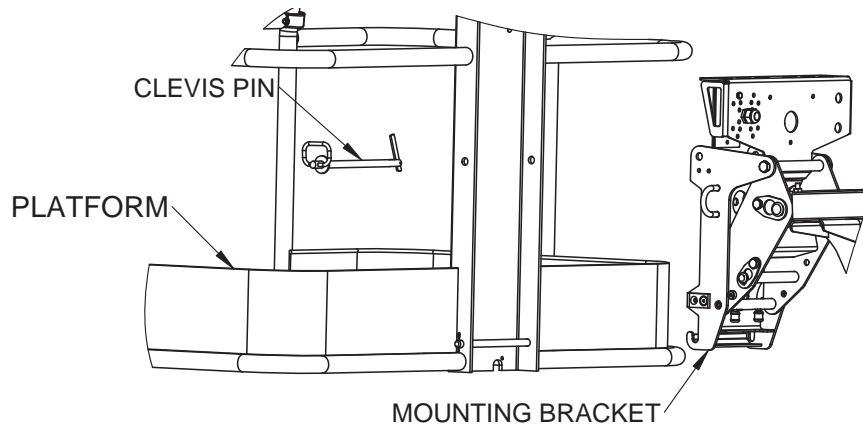

Figure 7-4. Platform Removal
- Remove the platform from the boom by lifting the cage up and away from the mounting bracket on the boom nose. See Figure 7-4.